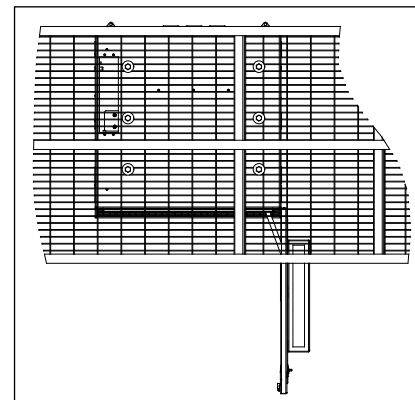

Figure 7 **Installing on a Platform**
7. To secure the CUBE to a steel grate platform, install 1/2" corrosion-resistant Grade 5 steel hardware through the cabinet and platform grate. Ensure that the bolts are long enough to extend past the nut on the bottom side of the platform grate. For all mounting applications, each bolted joint should have a minimum Ø1 inch fender washer on the inside of the cabinet (and the underside of the platform grate) with a lock washer. The washer on the underside of the platform must be large enough to cover both adjacent bearing bars as shown in Figure 7.